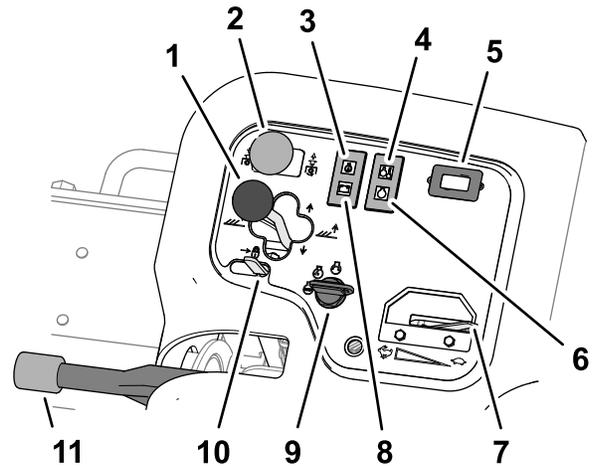

Figure 43
- To lower the cutting units to the ground, push forward the cutting unit shift lever forward to the LOWER position (Figure 43).
The cutting unit drive switch (Figure 43) has 2 positions: ENGAGE and DISENGAGE. The rocker switch operates a solenoid valve on the valve bank to drive the cutting units.
The oil pressure warning light (Figure 43) glows if the engine oil pressure drops below a safe level.
The temperature warning light (Figure 43) illuminates if the engine coolant temperature is high. At this temperature, the cutting units shut off. If the coolant temperature rises another 5.5°C (10°F), the engine shuts off to prevent further damage.
The hour meter (Figure 43) indicates the total hours of machine operation. The hour meter starts to function whenever the key switch is on.
The glow-plug indicator light (Figure 43) illuminates when the glow plugs are energized.
Move the throttle (Figure 43) forward to increase the engine speed and rearward to decrease the engine speed.
The alternator light (Figure 43) shuts off when the engine runs. If the alternator light illuminates while the engine runs, check the charging system and repair it as necessary.
Use the ignition switch (Figure 43) to run the engine and lights. The ignition switch has 3 positions:
Move the lift lever lock (Figure 43) rearward to prevent the cutting units from dropping.
Whenever the engine is shut off, engage the parking brake (Figure 43) to prevent accidental movement of the machine. To engage the parking brake, pull up on the lever; to disengage the brake, push down the lever.